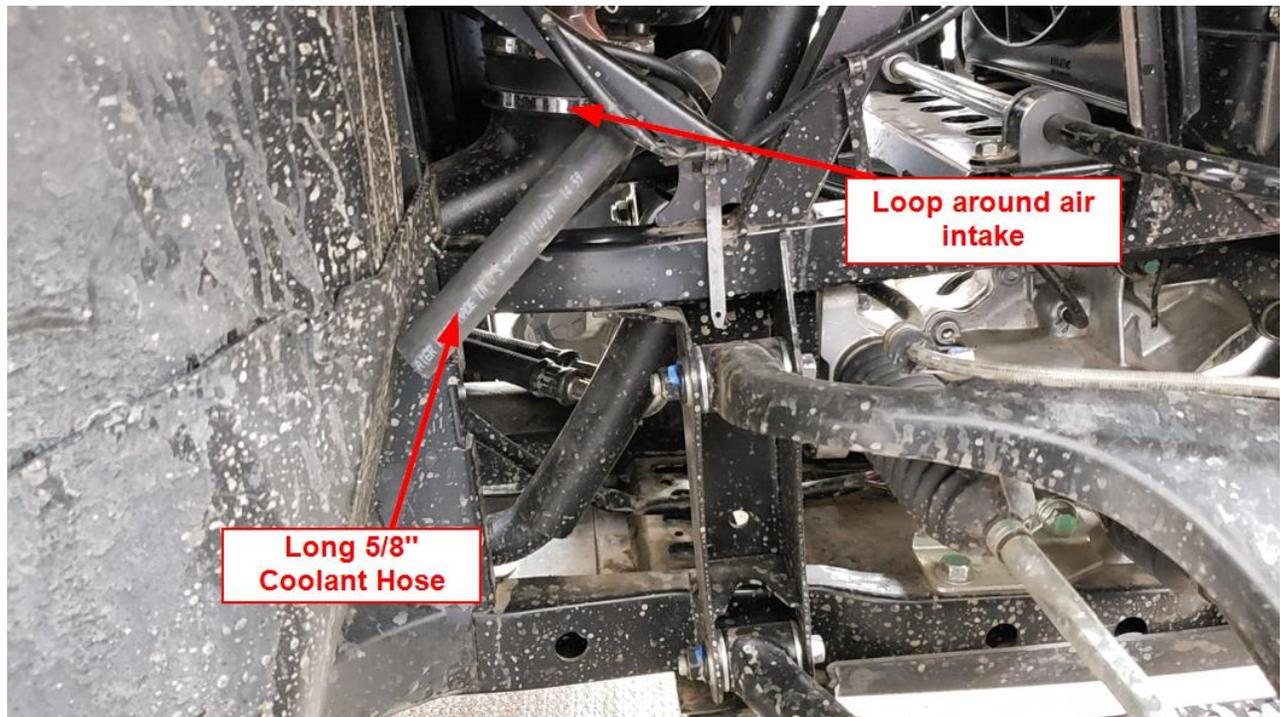
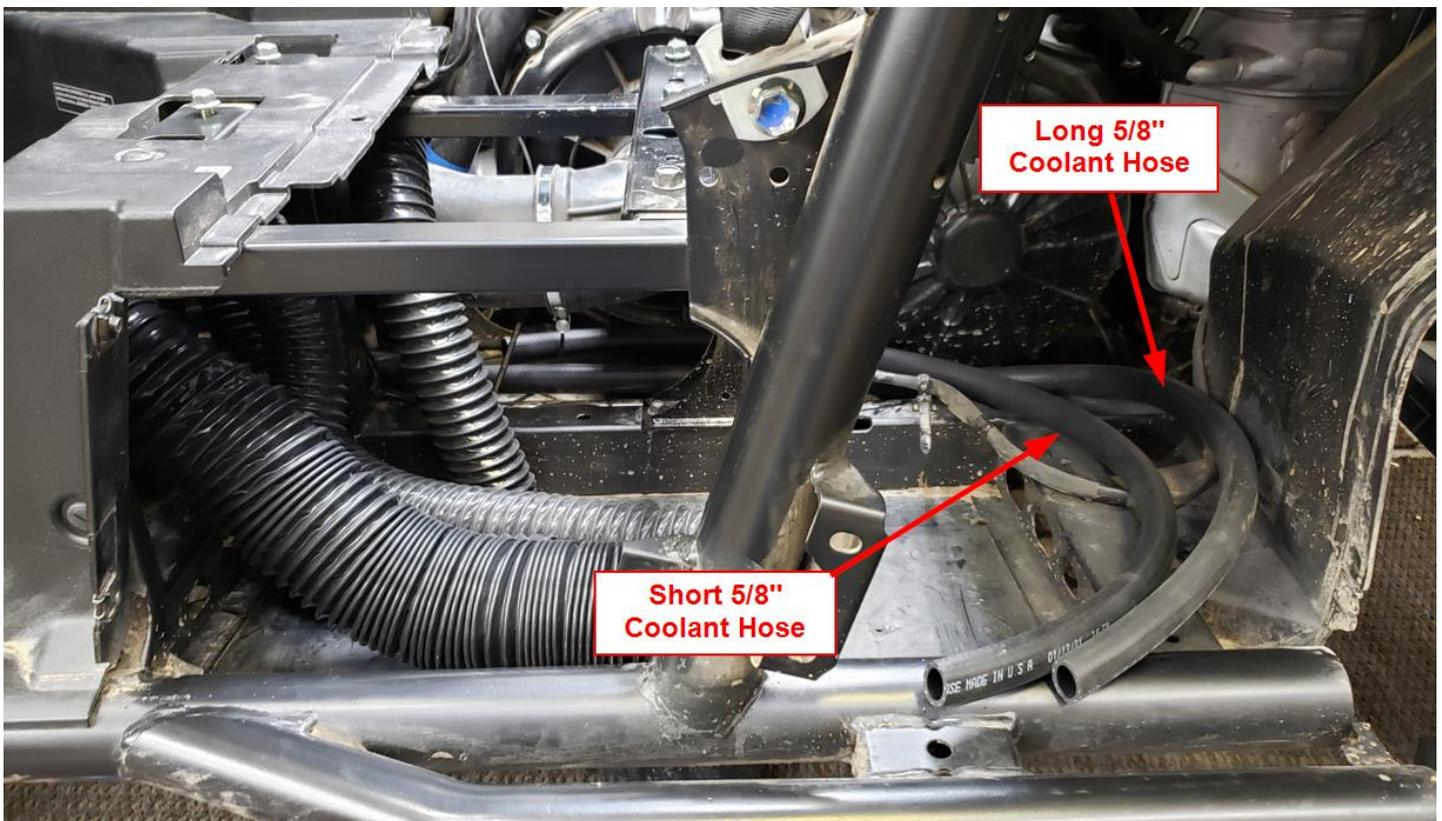

Figure 28
Figure 29
- a. Cut an 8’ piece of the 5/8” coolant hose. Route the coolant hose to the passenger side front wheel well starting from the driver seat area. Loop the hose as shown in Figure 28. Route the remaining 5/8” coolant hose as shown in Figure 29.